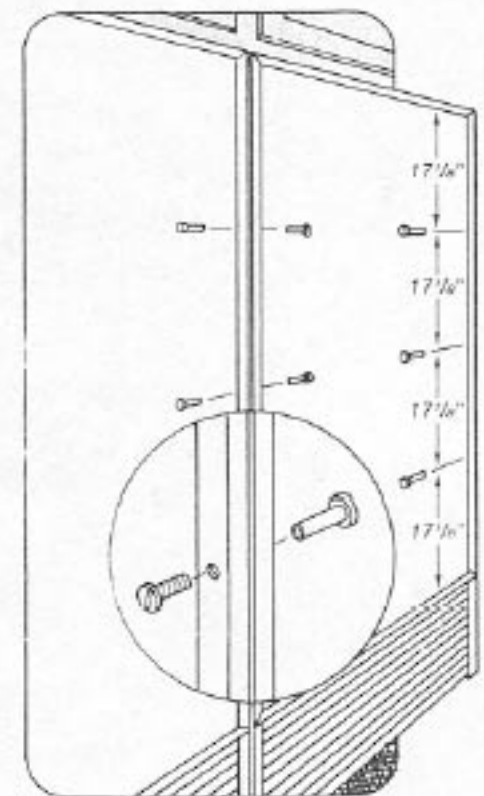

Figure 24
4) Drill three (3) $\frac{3}{16}$ " holes (per specs in Figure 24) through both outer trims.
6) Install all six (6) Sems to the cabinetry.
Figures 24 and 25 are examples.
Instructions for product being tied together (see Figure 24):